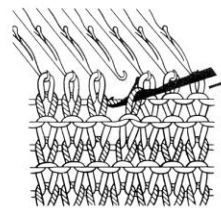

Fig.113
- c) Drop the loop off the machine needle onto the tool. (Fig.113)